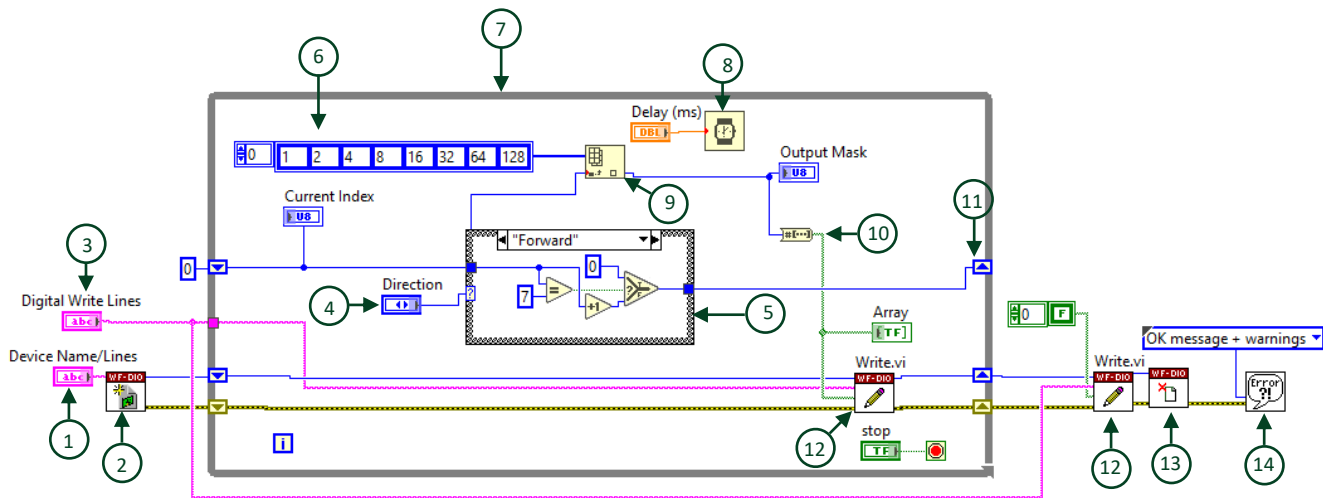

Figure 8. VI Block Diagram
- 2.1. Modify the block diagram as shown in **Figure 8**.